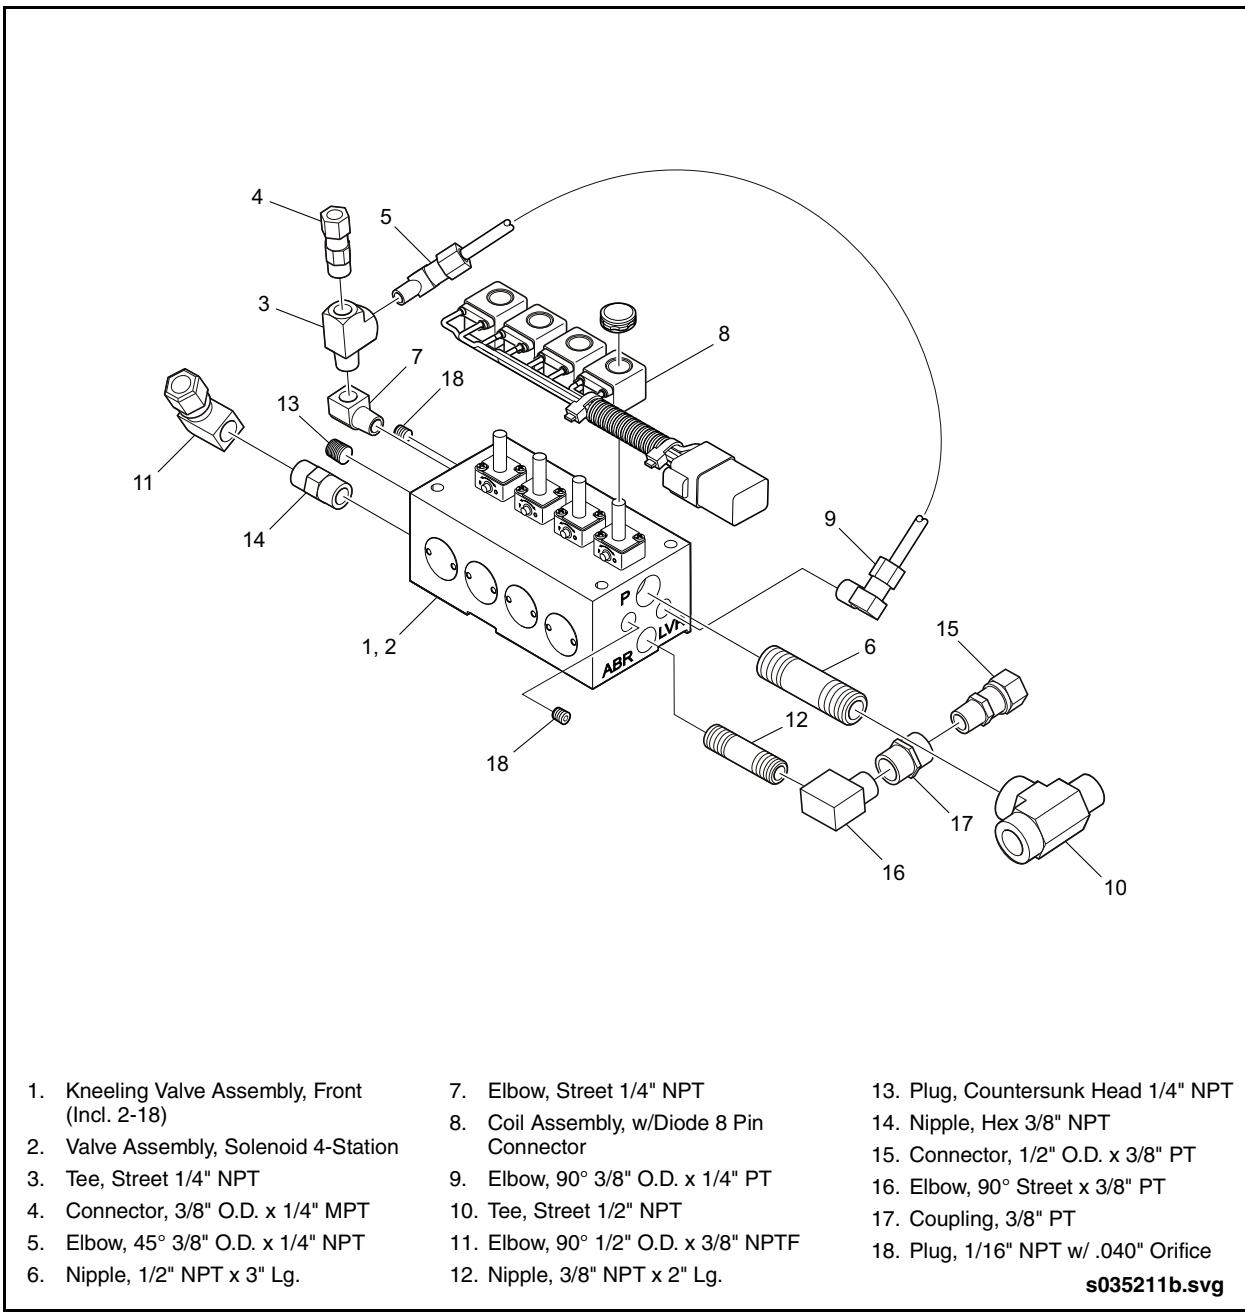

Fig. 8-30: Kneeling Valve Assembly
2. Install all air lines to kneeling valve. See "Fig. 8-30: Kneeling Valve Assembly" on page 97.